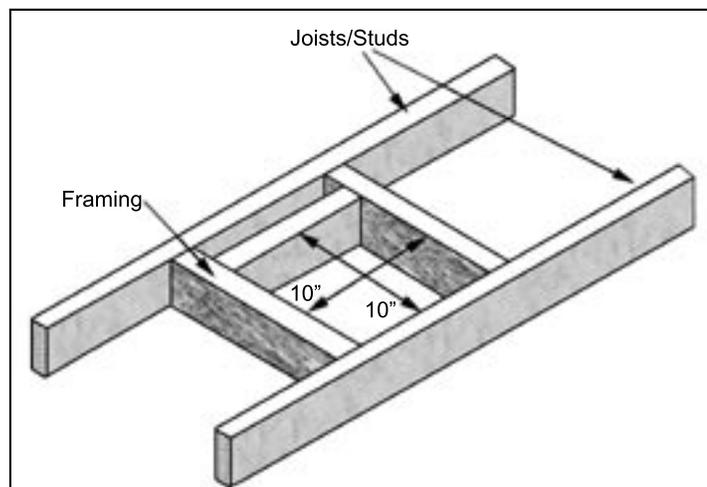
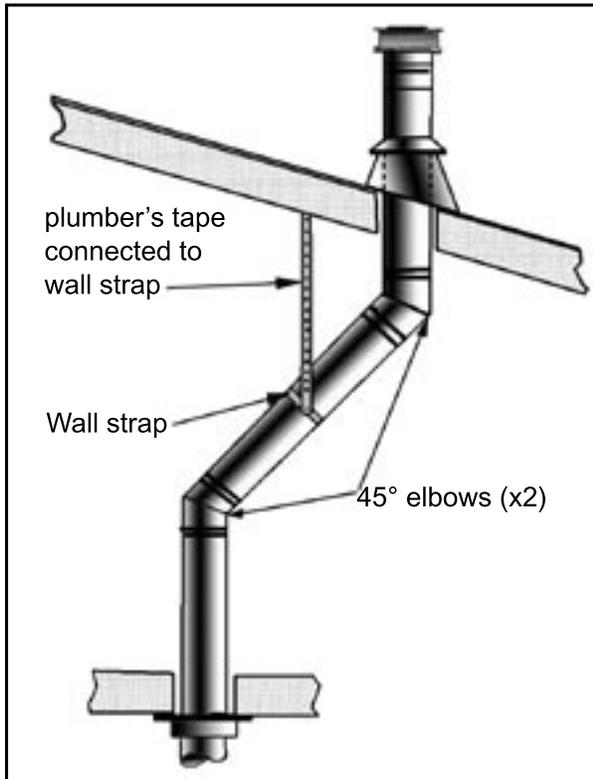
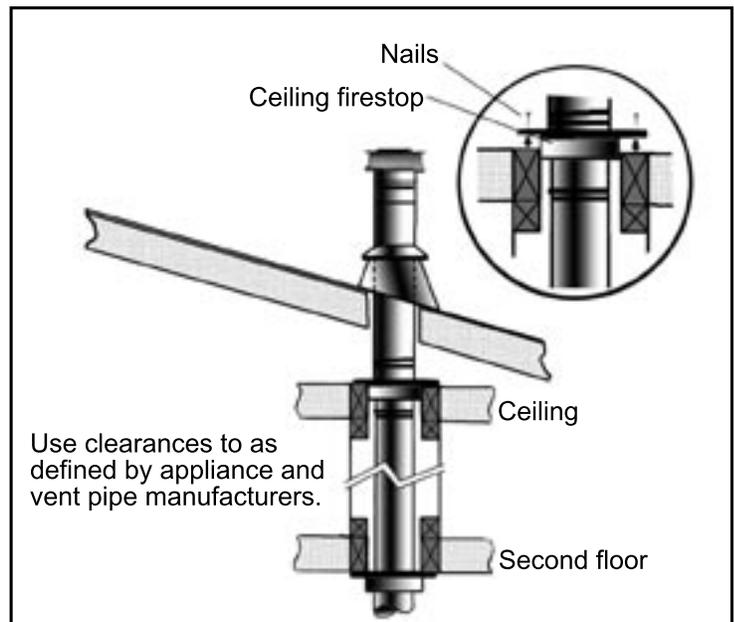

Figure 24. Vent Framing Through Wall/Ceiling
Figure 30: Use of Wall Straps.
Figure 31: Multi-Story Vent Pipe Installation.
4. Frame the hole as shown in Figure 24.
5. Trim the wall thimble to match the wall thickness as necessary. Install the wall thimble and secure it to the inner wall frame using four (4) 1½" wood screws. If a wall is greater than 8" (203mm) in depth, the clearance above the flex must be 4¾" (111mm)
A 10" (254 mm) x 10" (254 mm) frame (see Figure 24) will assure the proper support and spacing for the vent pipe as it passes through the wall. Installations in Canada require that a wall thimble be used for passing through walls and ceilings. All sealing and vapour barriers must comply with local building codes.
Step 3. With the pipe in the correct position and attached to the fireplace, mark the wall for a 10 inches (25.4 cm) x 10 inches (25.4 cm) square hole (see Figure 24). The center of the hole should match the center line of the horizontal pipe. Cut and frame the hole in the exterior wall where the vent will be terminated. If the wall being penetrated is made of a non-combustible material (i.e. masonry or concrete) a 7 inches (17.8 cm) hole is acceptable.
Step 3. To install the Round Support Box/Wall Thimble in a flat ceiling, cut a 10 inch (25.4 cm) square hole in the ceiling, centered in the hole drilled in Step 2. Frame the hole as shown in Figure 24.
- (1) If an offset is necessary in the attic to avoid obstructions, it is important to support the vent pipe every 3 feet (914 mm), to avoid excessive stress on the elbows, and possible separation. Wall straps are available for this purpose (see Figure 30).
- (2) When ever possible, use 45° degree elbows instead of 90° degree elbows. The 45° degree elbow offers less restriction to the flow of flue gases and intake air.
- (3) For multi story installations; a ceiling firestop is required at the second floor, and any subsequent floors (see Figure 31). The opening should be framed to 10" (254 mm) x 10" (254 mm) inside dimensions, in the same manner as shown in Figure 24.
- (4) Any occupied areas above the first floor, including closets and storage spaces, which the vertical vent passes through, must be enclosed. The enclosure may be framed and sheet-rocked with standard building materials. However consult the appliance manufactures installation instructions for the minimum allowable clearance between the outside of the vent pipe, and the combustible surfaces of the enclosure. Do not fill any required air spaces with insulation.